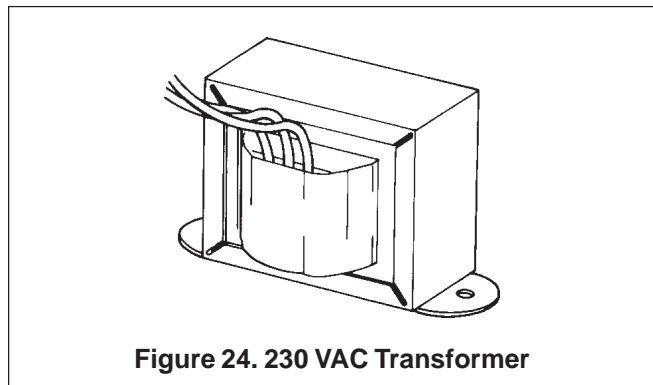

**Figure 23. Fault Relay**
**FAULT RELAY.** (See Figure 23.)